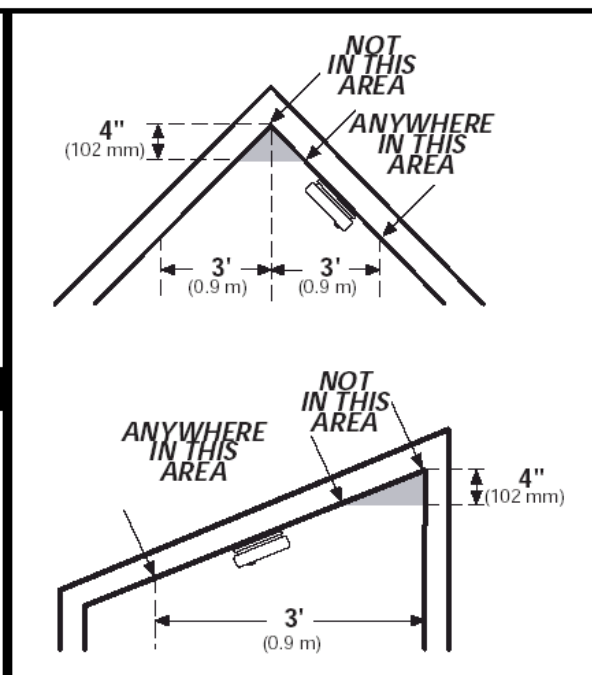

FIGURE 3
- Install Smoke Alarms on sloped, peaked or cathedral ceilings at or within 3ft (0.9m) of the highest point (measured horizontally). NFPA 72 states: "Smoke alarms in rooms with ceiling slopes greater than 1 foot in 8 feet (.3m in 2.4 m) horizontally shall be located on the high side of the room." NFPA 72 states: "A row of detectors shall be spaced and located within 3 ft (0.9m) of the peak of the ceiling measured horizontally" (see Figure 3).